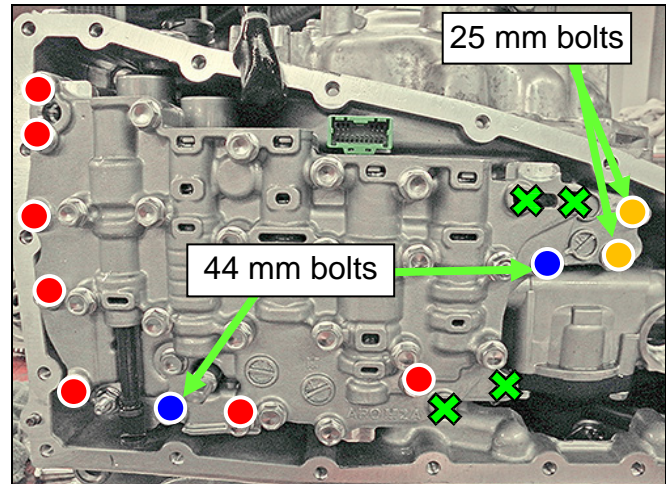
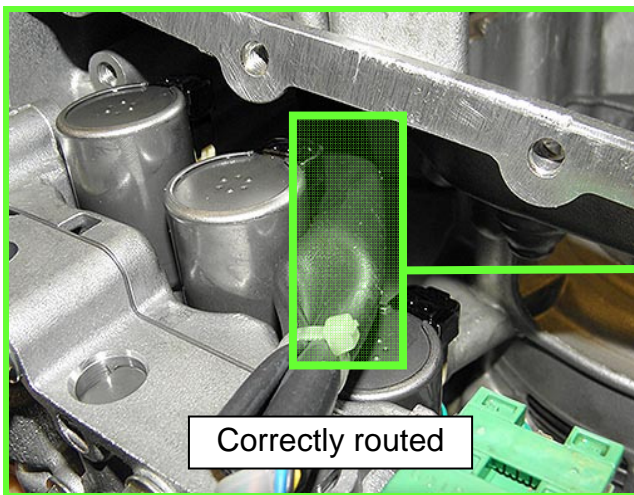

Figure 3
Figure 4
5. Install the Control Valve with eleven (11) mounting bolts (Figure 3).
**IMPORTANT:** Leave four (4) ✘ bolt holes blank at this step.
**CAUTION:** Make sure the wiring harness does not get pinched (see Figures 4 and 5 for correct routing).